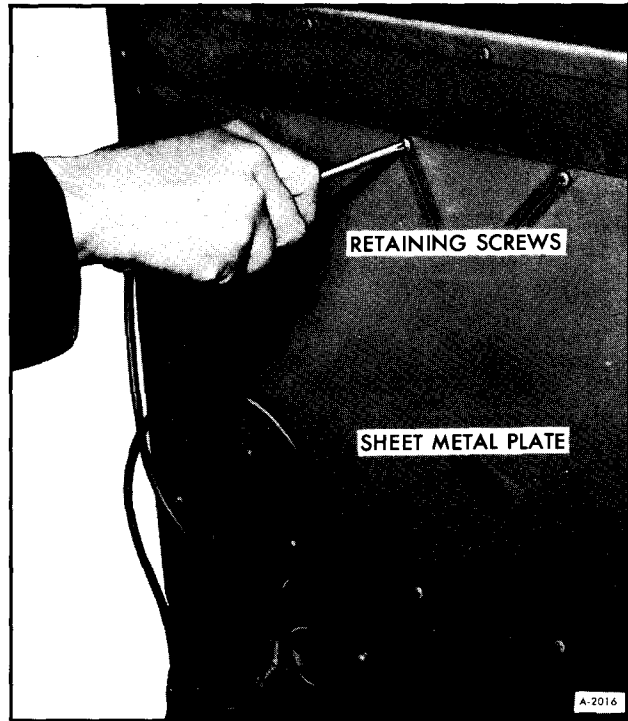

Figure 13—Removing Sheet Metal Plate
6. Remove sheet metal plate from back of refrigerator as shown in Figure 13.
4. Install sheet metal plate over rear opening (figure 13).